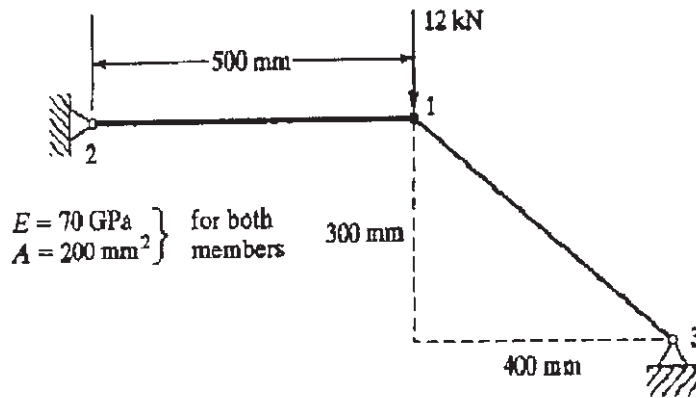

Fig. 4a
- Q4) a)** The two bar truss made of steel ($E = 70$ GPa) is subjected to the vertical force of 12000N as shown in the fig. 4a The cross-sectional area is 200 mm^2 for each element. Using finite element method, determine. [10]